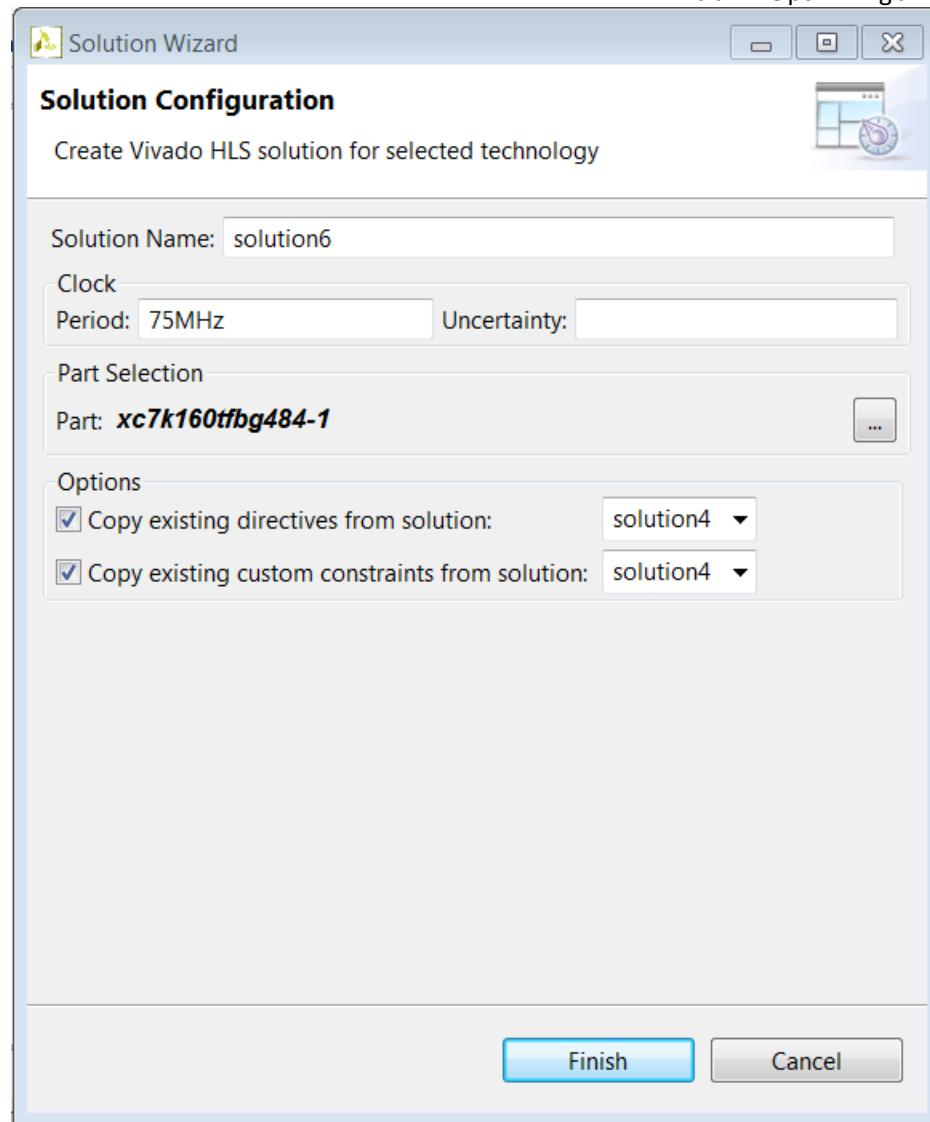

Figure 159 New Solution Based on Solution4 Directives
3. Select solution4 from both the drop down menus in the Options section. The Solution Wizard should look like Figure 159.